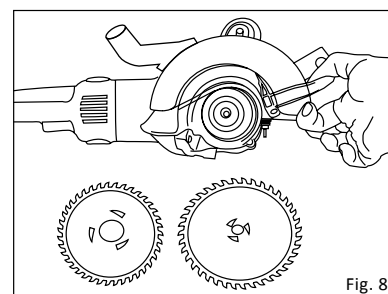

Fig. 8
6. Lift up and remove "Face A" blade. (fig. 8)